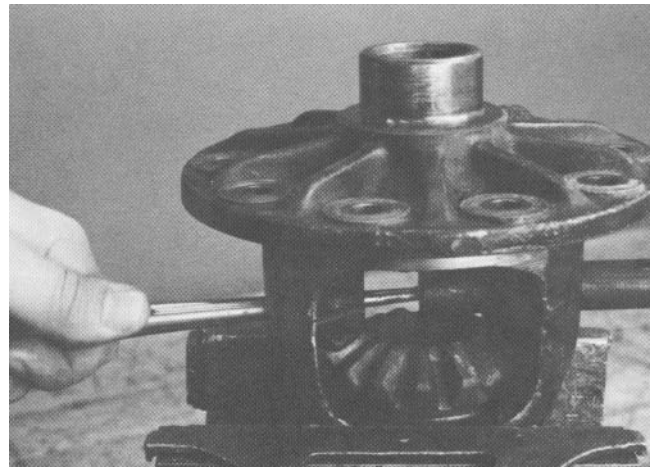

Figure 16
8. While supporting the differential in a vise, drive the pinion mate shaft from the differential with a long drift punch (Fig. 16).